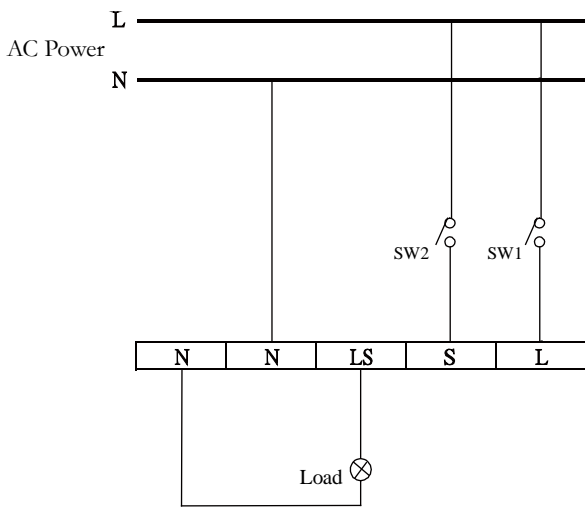

FIGURE 7
- Study FIGURE 7 for wiring information. Then thread and fasten the power cables as indicated in FIGURE 7.
To keep the light on regardless of the motion, you can override the Automatic Operation. To enable Manual Override mode, first ensure that the sensor is in Automatic Operation mode. Then turn the wall switch (Switch 1 in FIGURE 7)
In some cases the user may want to activate the light manually without entering Manual Override operation. For such semi-auto requirements you can toggle the trigger switch (Switch 2 in FIGURE 7) on to manually turn on the light. The light will stay on for the duration of TIME setting and then turn off. The motion sensor will then return to Automatic Operation.